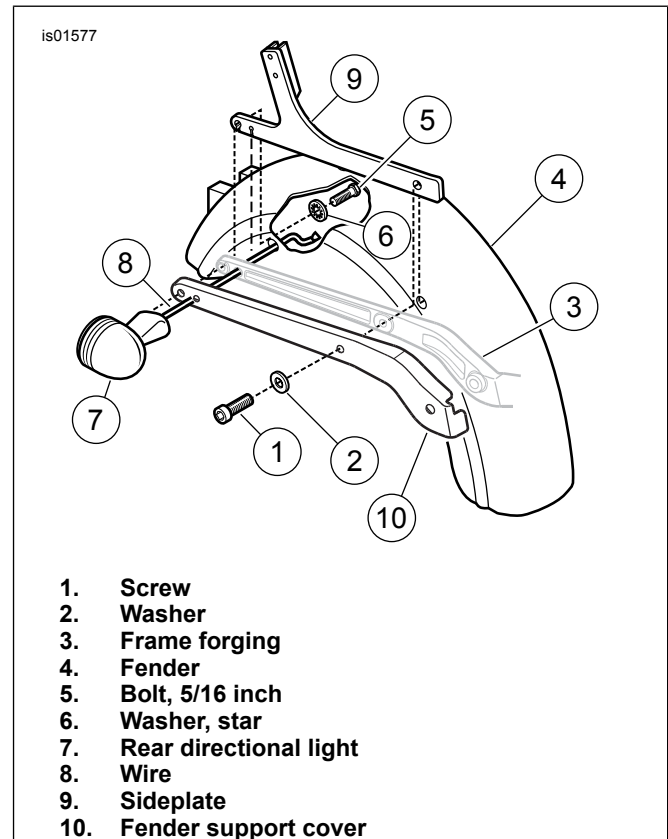

Figure 1. Right Sideplate Installation
1. See Figure 1. Remove the screw (1) and washer (2) securing the fender (4) and fender support cover (10) to the frame forging (3).
2. Remove the 5/16 inch bolt (5) and star washer (6) securing the rear directional light (7) from the inside of the fender. The rear directional light and fender support cover (10) will remain loosely attached to the motorcycle by the rear directional wire (8).
3. Slide the sideplate (9) into place between the frame forging (3) and fender (4). Line up the holes in the sideplate (9) with the holes in the frame forging (3) and fender support cover (10).
4. Apply a few drops of Loctite 243 - Blue to the fender strut screw (1). While holding the sideplate (9) in position, install the screw (1) and washer (2). Tighten finger tight to hold the sideplate in position.
5. Apply a few drops of Loctite 243 - Blue to the rear directional light bolt (5). With the larger rear slot in the sideplate (9) lined up with the bolt hole and the smaller slot lined up with the rear directional wire (8), install the bolt (5) and star washer (6) finger tight.
6. Tighten the screw (1) securing the fender strut to the fender to 16.3–24.4 N·m (12–18 ft-lbs). Tighten the rear directional light bolt (5) to 16.3–21.7 N·m (12–16 ft-lbs).